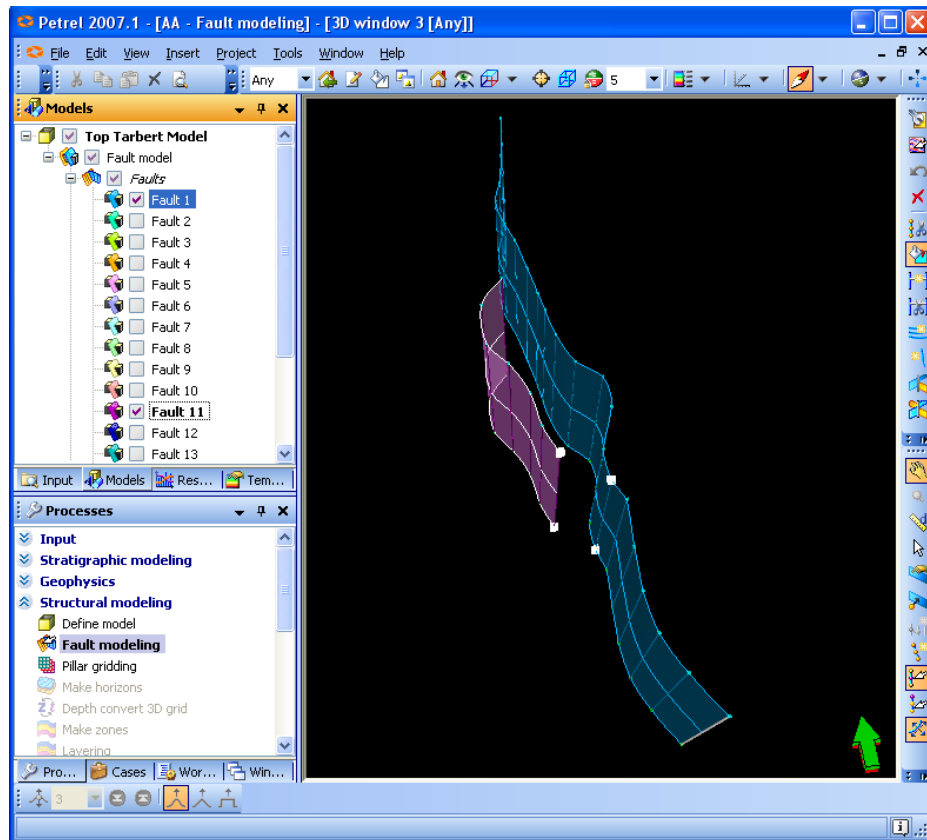

Fig. 11.36: Two fault sticks displayed before auto connection while the Fault Modeling dialog box is displayed
1. Display all the faults you have created in a 3D window. See Fig. 11.36.